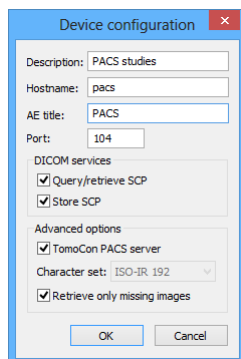

Figure 82 – Device configuration dialog
- To add a new DICOM device as a separate item, click the **Add device** button. The **Device configuration** dialog (Figure 82) is then displayed. Fill in the fields and click the **OK** button to confirm.
- To add a new DICOM device as a part of a defined group, selected the group in the list and click the **Add device** button. The **Device configuration** dialog (Figure 82) is then displayed. Fill in the fields and click the **OK** button to confirm.
- To modify a group or a DICOM device, click the **Configure...** button. The **Device configuration** dialog is then displayed in which you can modify the information concerning a group or device (see Figure 82).